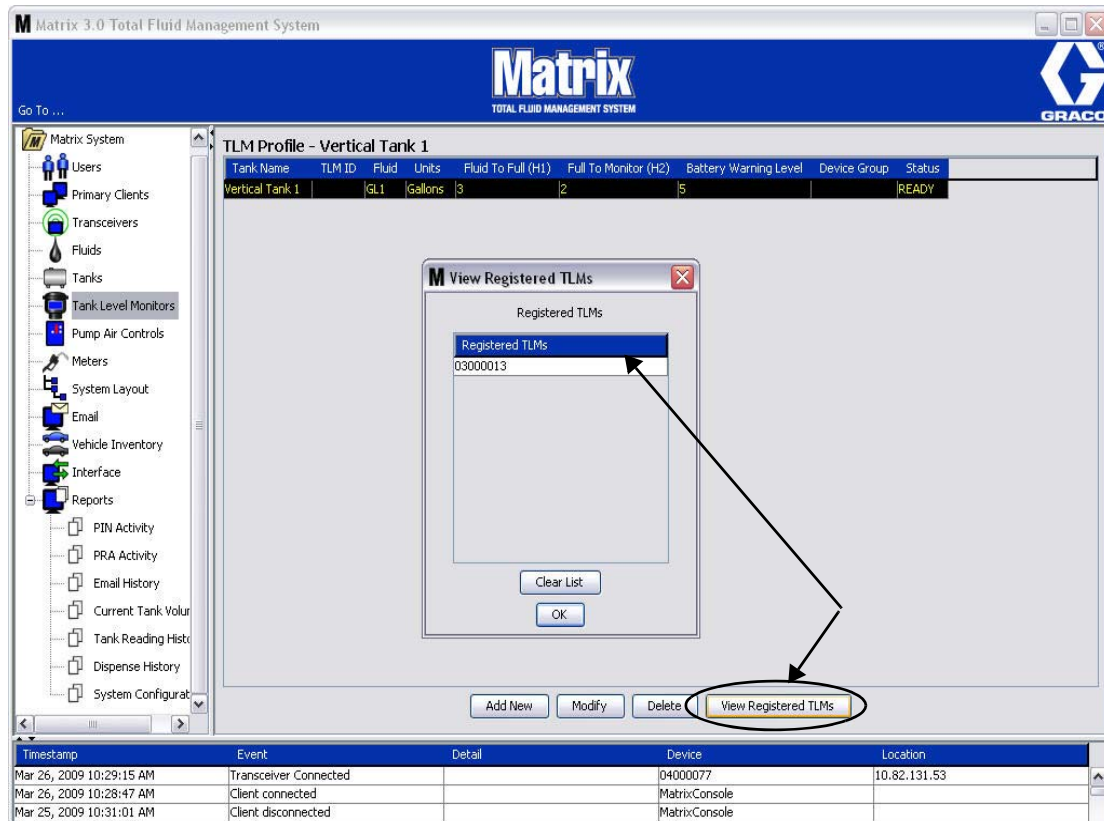

FIG. 123
- The Clear List button removes all registered TLM's from the system (FIG. 123). These TLM's will have to be re-registered with the Matrix PC. See the TLM instruction manual for complete TLM registration instructions.